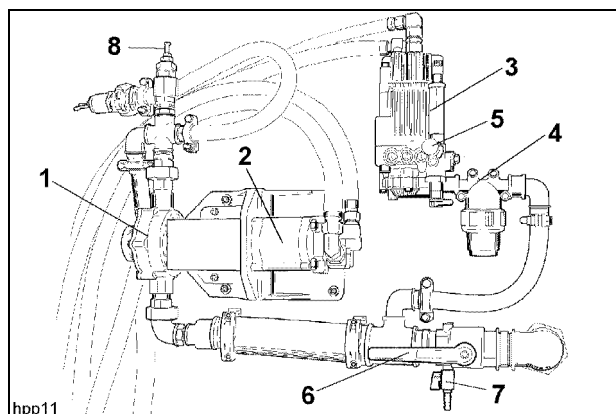

Fig.: 2
- Water pump 1 and high-pressure cleaning system 3 (Fig.: 2)